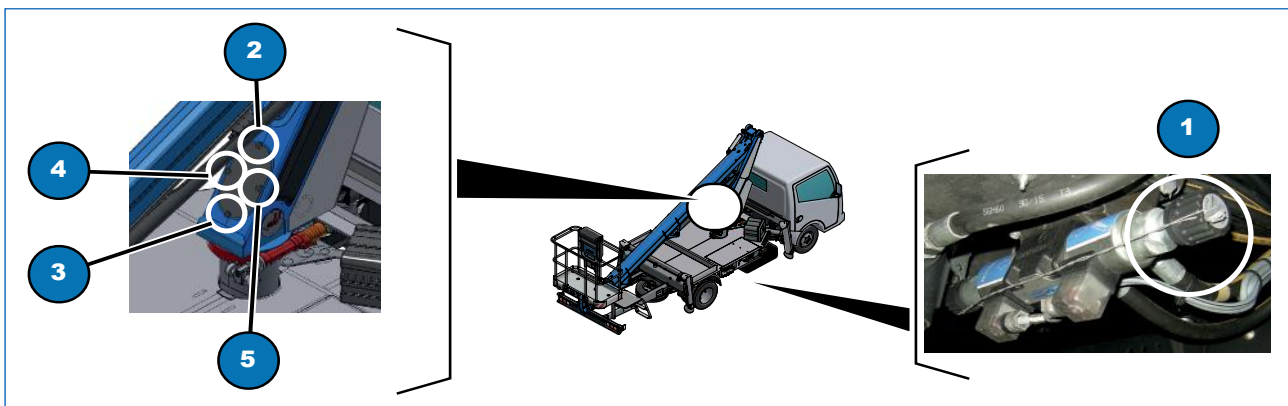

Fig. 7.4
- 3) unfasten the "stabiliser/work platform control" diverter valve (Fig. 7.4 1) located close to the stabiliser controls;
- 4) completely remove the carter in the turret by unscrewing the black locking knobs (Fig. 7.4, 2, 3, 4 and 5);